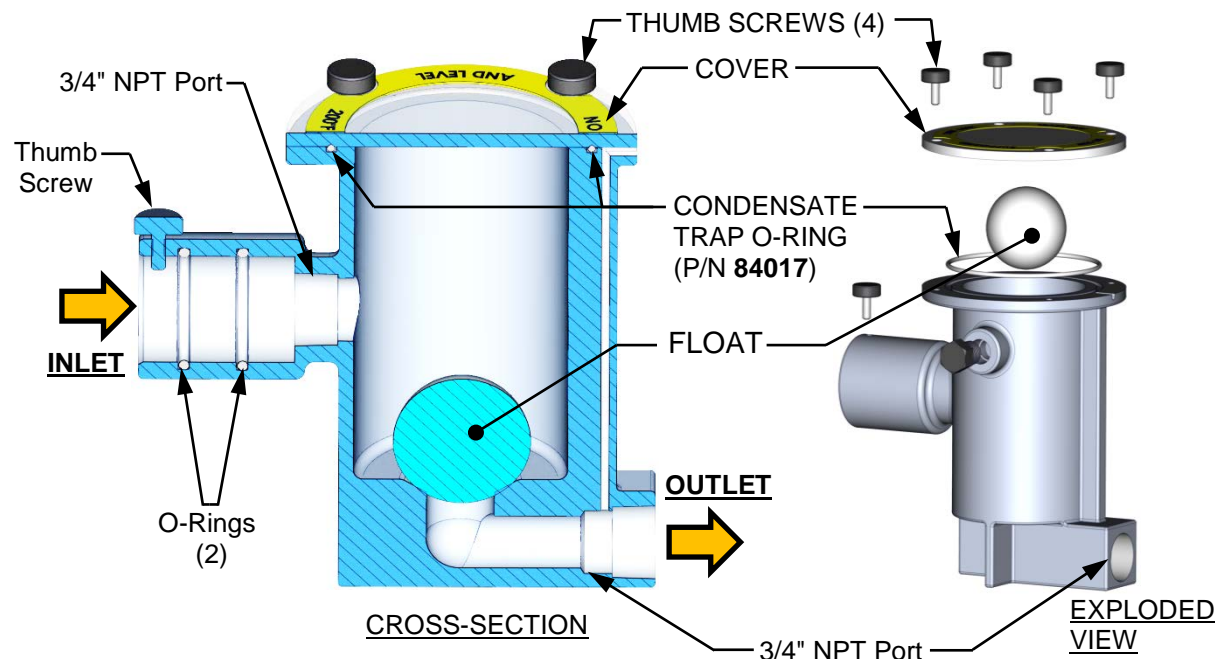

Figure 5-7: External Condensate Trap – Cross-Section & Exploded View
1. Disconnect the external condensate trap by loosening and then removing connections on the inlet and outlet sides of the condensate trap (see Figure 5-7).
2. Loosen the four (4) thumbscrews securing the trap's cover and then remove the cover and the O-ring from under the cover.